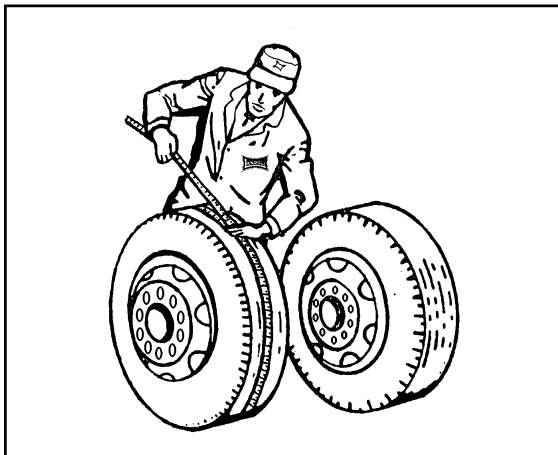

Figure 4-11 Measuring Tape Method
a. Tape Measuring Method: Measure around each tire on the tread surface. A maximum difference of 3/4" is allowed between the two mating tires of a dual (**See Figure 4-11**).